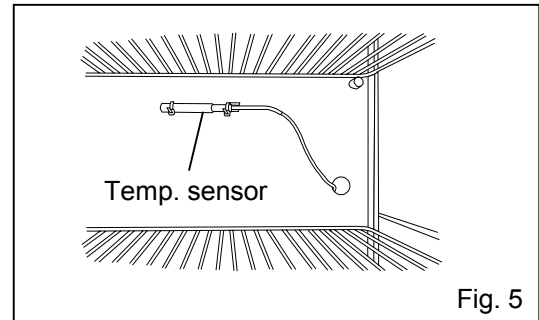

Fig. 5
9. After covering the temp. sensor with the cover provided, fix the temp. sensor under the 3rd shelf by using 2 enclosed nylon clip. See Fig. 5.